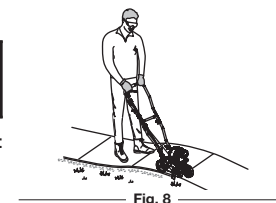
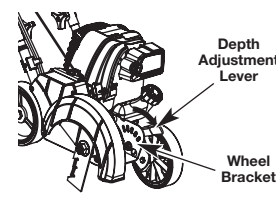

Fig. 8
Fig. 9
Before operating the unit, stand in the operating position (Fig. 8). Check for the following:
- The edger wheel adjusted for proper cut depth as shown in Figure 9 and edger positioned as shown in Figure 8.
1. Gently pull the depth adjustment lever away from the wheel bracket (Fig. 9).
2. To raise the cutting blade, move the lever toward the front of the wheel bracket (Fig. 9). Lowering the wheel decreases the cutting depth.